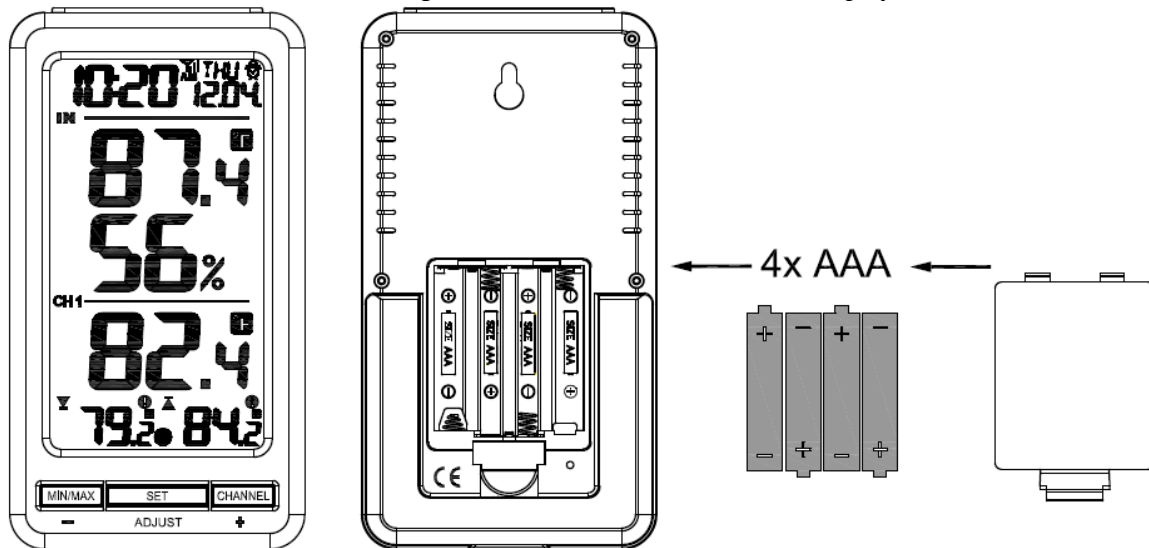

Figure 11
- 3 Remove the battery door on the back of the display, as shown in Figure 11. Insert four AAA (alkaline or lithium, avoid rechargeable) batteries in the back of the display console.